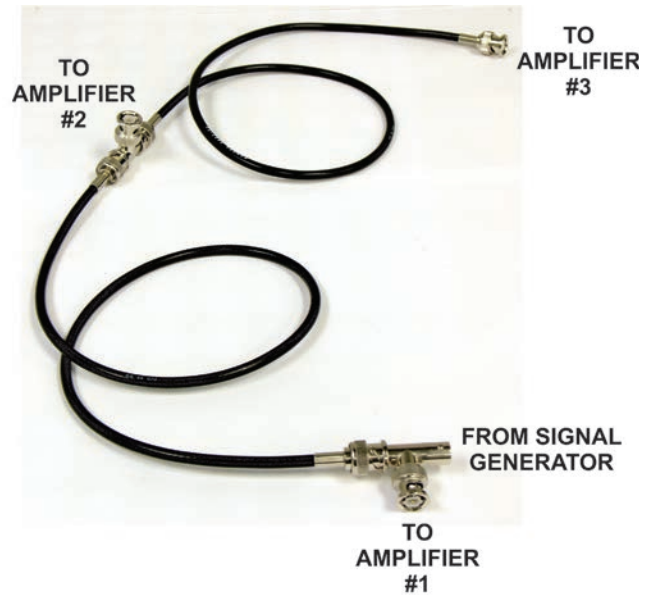

Figure B.2.25 – BNC Connections for Parallel Inputs
- E. Alternately, you can connect an unbalanced input signal to the SIM-BNC's BNC input connector using the BNC wires and T-connectors provided in the Parallel Wiring Kit as shown in **Figure B.2.25**. Set the INPUT SELECT switch located on the SIM-BNC input card on each amplifier to the LEFT position (unbalanced setting).